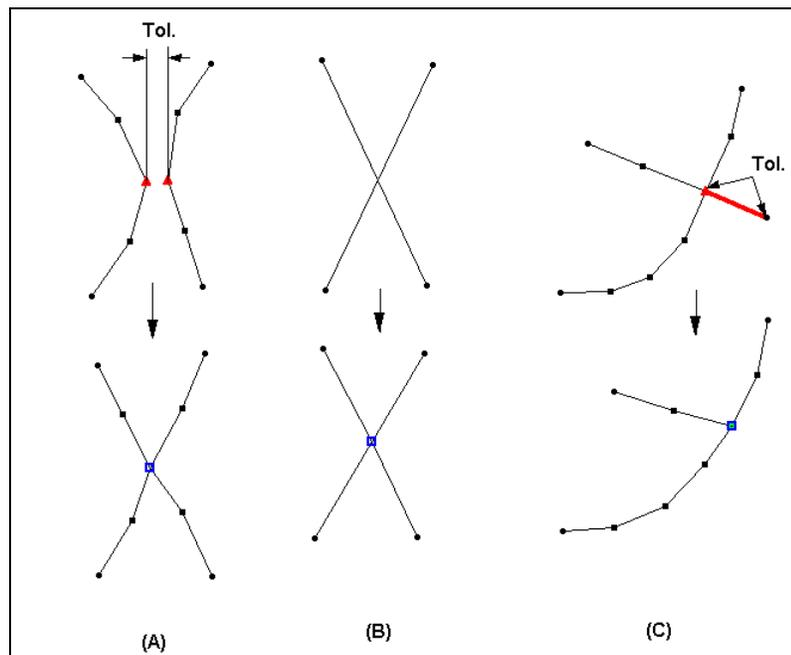

Figure 14.3 Cleaning Arcs. (A) snapping (B) intersecting (C) dangling arcs
1. A check is made to see if any nodes are within the specified tolerance of other nodes. If so, the nodes are snapped together. (see Figure 14.3 A)
2. A check is made to see if any arcs intersect. If so, a node is created at the intersection and the arcs are split. (see Figure 14.3 B)
3. A check is made for dangling arcs (arcs with one end not connected to another arc) with a minimum length. If any are found they are deleted. (see Figure 14.3 C)